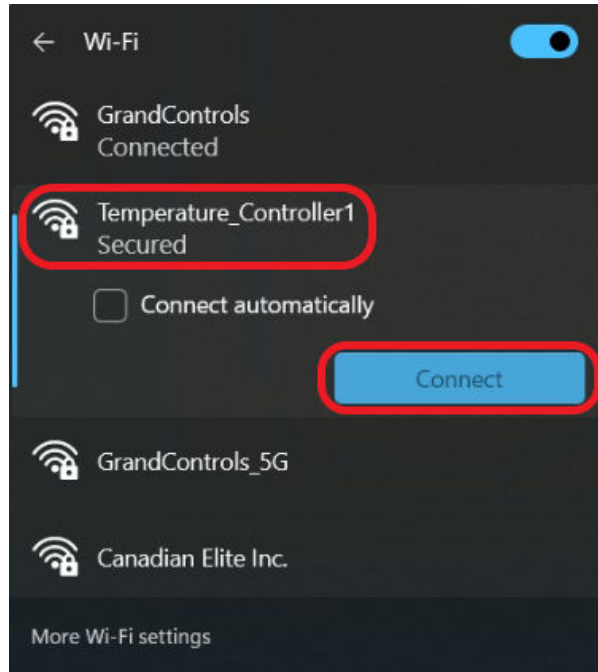

Figure 22: Wi-Fi Connection - Network connection menu
3. On your computer, in the bottom right corner on the task bar, click on the Wi-Fi symbol and find the Wi-Fi network "Temperature_Controller1" and click "Connect" – both highlighted in Figure 22 below.